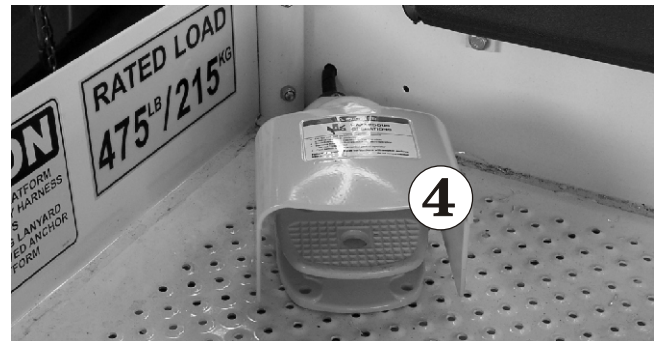

Figure 9.3 - Foot Switch Option
4. Step on the **Platform Foot** switch ❹ (see Figure 9.3).
Enable 5 or 4 (foot switch - Figure 9.3)